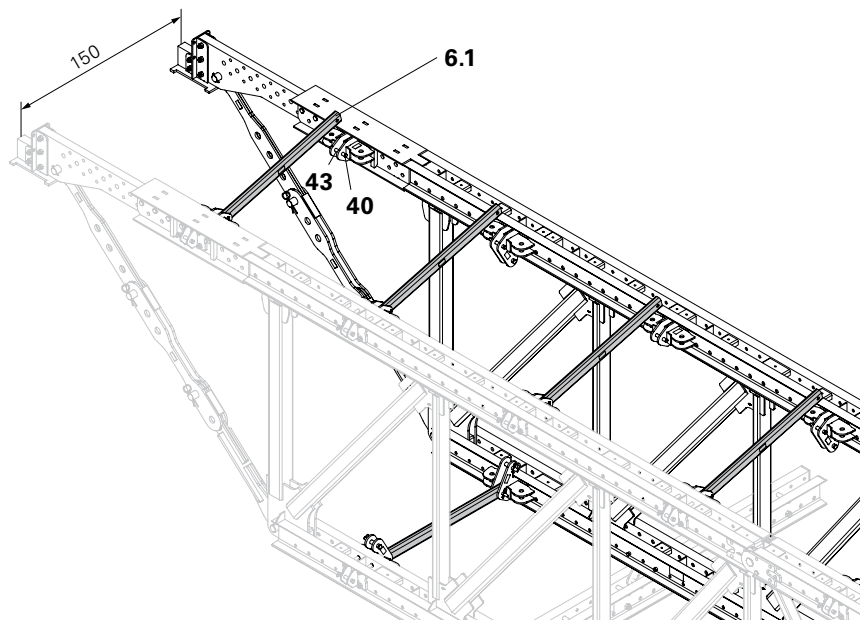

Fig. A2.07
1. Fix all pre-assembled Bracing Posts (6.1) to the second single truss using fitting pins (43) and secure with cotter pins (40). (Fig. A2.07)
For a better presentation, Fig. A2.07 has been rotated by 180°.